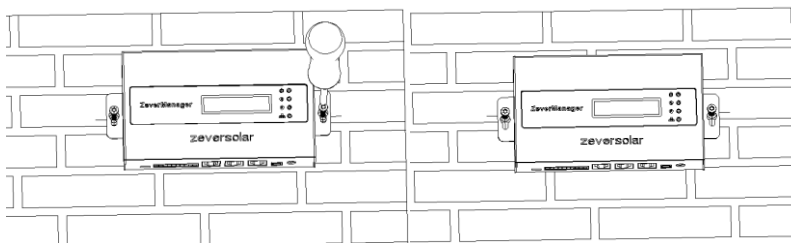

Fig. 4-4: Tighten the screws
Step 4: Finally, tighten the two screws as shown in Fig. 4-4.